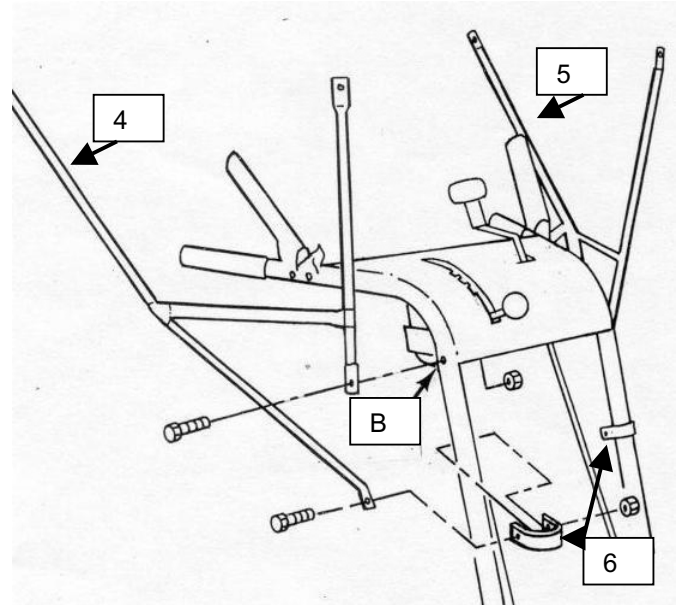

Figure 4
Step 2; See Figure 4 & 5:
Step 2; See Figures 4, 5 & 6: